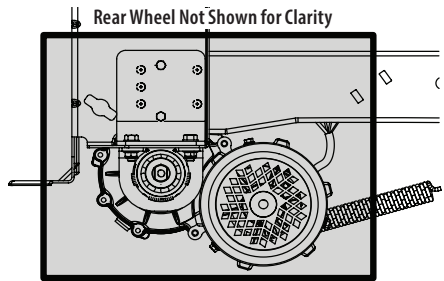

Figure 16
- Clean around and near the transmission and axle (Figure 16).